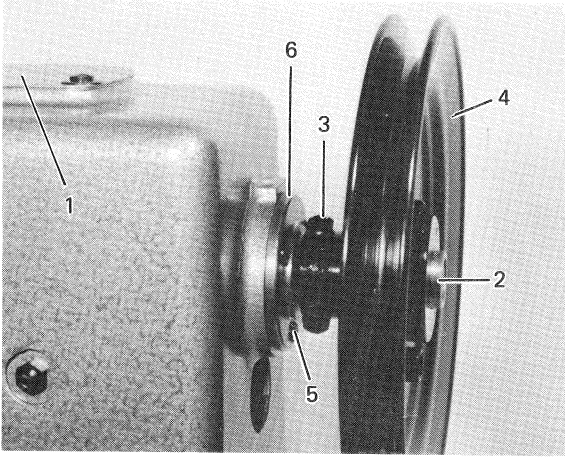

Fig. 37
B. Replacement of the connection belt when damaged. (Figs. 37 & 38)
2. Slide the connection belt (A) off from lower and upper belt pulley.
3. Loosen the machine pulley adjustment screw (2) and two set-screws for the machine pulley (3), then remove the machine pulley.
4. Loosen the three screws in the arm shaft bushing (5) and remove the bushing (6).
5. Lift the belt up through the arm cap hole after removed the bushing (6) as far as possible and draw it out through the space normally occupied by the bushing.